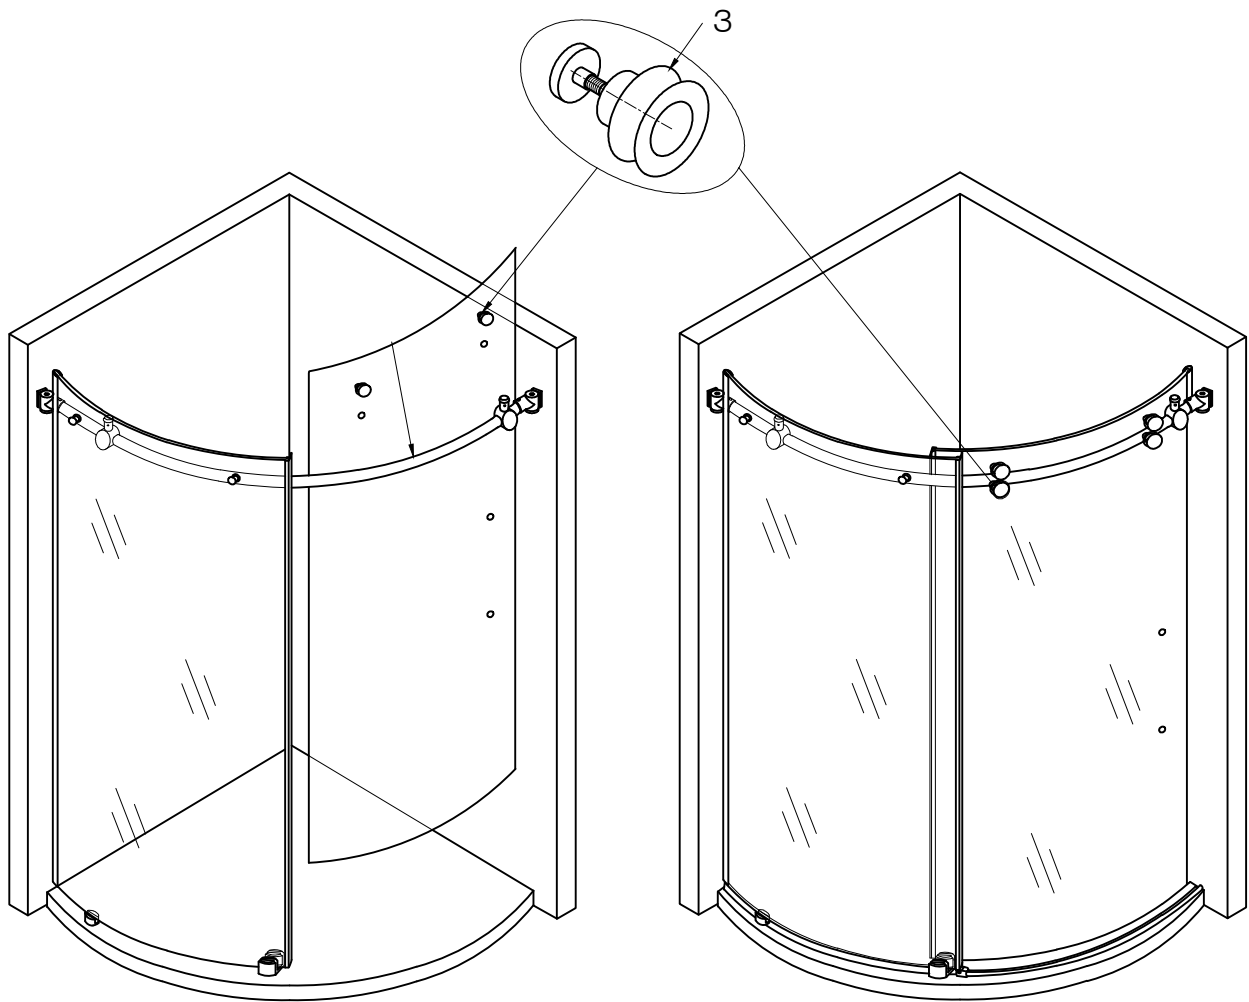

FIG. 7
3. Place the two top rollers and the door panel (#5) assembly onto the structural rail (#11). [SEE FIG.7] Note that the rollers have a built-in mechanism that will provide adjustment for walls that are not 100% perpendicular to the floor. If necessary, unscrew the adjustment screw and rotate the individual roller. This will raise or lower the height that the roller sits on the structural rail. Please refer to pages 13-16 for "Roller Adjustments to Accommodate Out of Square Openings." Once the rollers are properly adjusted and the door sits straight in the closed position, the adjustment will be complete. Fully tighten the adjustment screws and re-install the roller caps. [SEE FIG.6A]
5. Screw the two bottom rollers (#3) to the door panel. [SEE FIG.7] Rotate the bottom rollers until they are in the tightest position against the structural rail (#11).